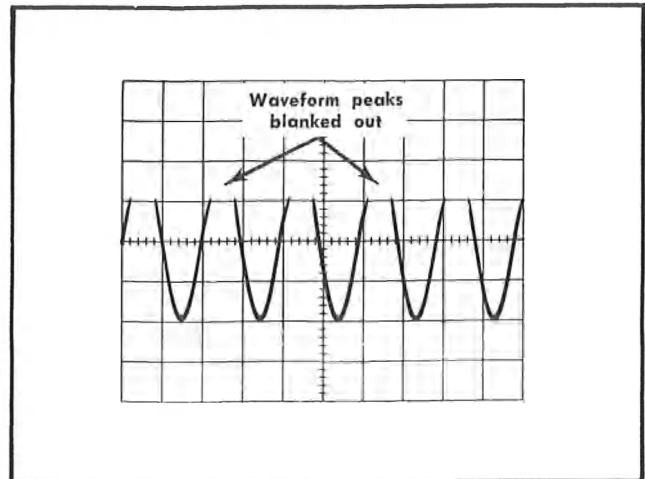

Fig. 5-31. Typical CRT display when checking external blanking.
- CHECK—The positive peaks of the displayed signal should be blanked with a normal INTENSITY control setting (see Fig. 5-31).